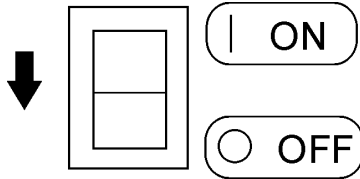
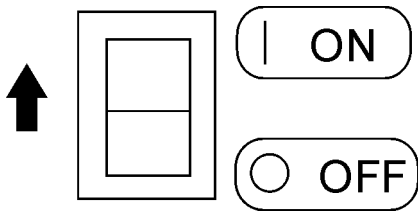

Figure 16. Idle Control Switch (Off)
Figure 17. Idle Control Switch (On)
- Place the *idle control switch*** (Figure 16) in the **"OFF"** (down) position. This will allow the engine speed to run at speed about 3600 RPM's
NOTE Placing the *idle control switch* in the **OFF** position (Figure 16) allows the engine to operate at a maximum speed of about 3600 RPM's. When the idle control switch is placed in the up position (**ON**) (Figure 17), the generator will run at idle speed (2200 RPM's) until a load is applied, at that time the engine speed will increase to 3600 RPM's as long as the load is being applied. When the load is not in use, the engine speed will drop back to the idle mode after about 3 seconds.